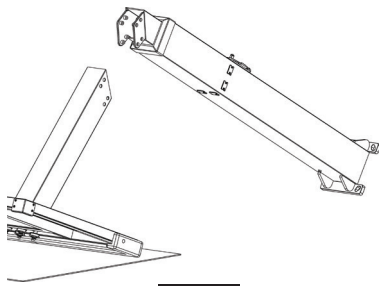

Figure 7
- Hold the Base Pole & the Extension Arm at a 45 degree angle. See Figure 7.